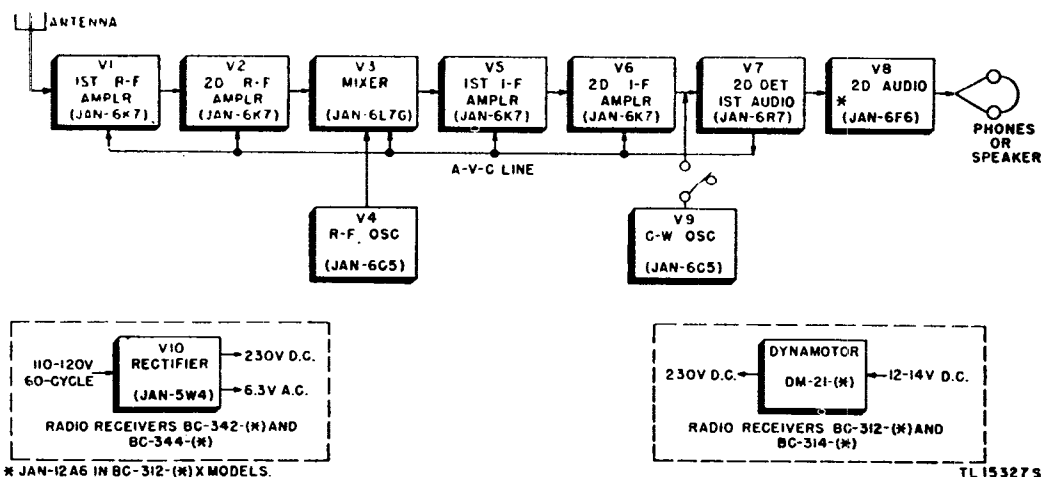

Figure 17. Receiver simplified block diagram.
a. RADIO RECEIVERS BC-312-(*), BC-342-(*), BC-314-(*), and BC-344-(*) are similar in design with the exception of their frequency coverage and supply voltage. A simplified block diagram of the receivers is given in figure 17. The received signal from the antenna is applied to the first r-f amplifier stage, V1, where it is amplified before being fed to the second r-f amplifier stage, V2. The two r-f amplifier stages each use a Tube JAN-6K7 high-gain pentode to provide a high degree of selectivity and sensitivity while rejecting interfering signals at intermediate or image frequencies. The amplified r-f signal is then applied to the mixer or converter stage along with the output of the r-f oscillator stage, V4. The r-f oscillator signal beats against the
d. Two sources of plate voltage are provided for the receiver circuits. (See fig. 17.) Radio Receivers BC-312-(*) and BC-314-(*) are designed for operation from a battery source and are equipped with a dynamotor to convert the 12- to 14-volt battery supply into 230 volts direct current. Radio Receivers BC-342-(*) and BC-344-(*) are designed for operation from a 110- to 120-volt, a-c supply and are equipped with a vacuum tube rectifier, V10, to convert the a-c supply voltage into direct current for operation of the receiver circuits.